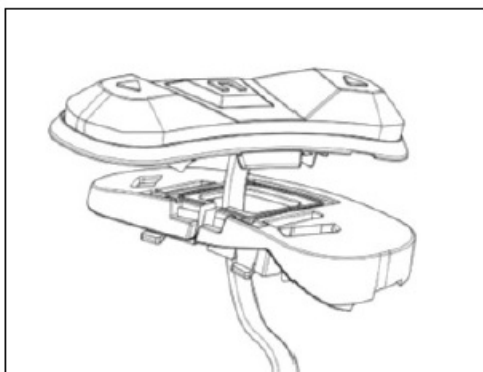

Fig. 18
- Insert the support specific to your helmet in the cable of the keypad (Fig. 18).